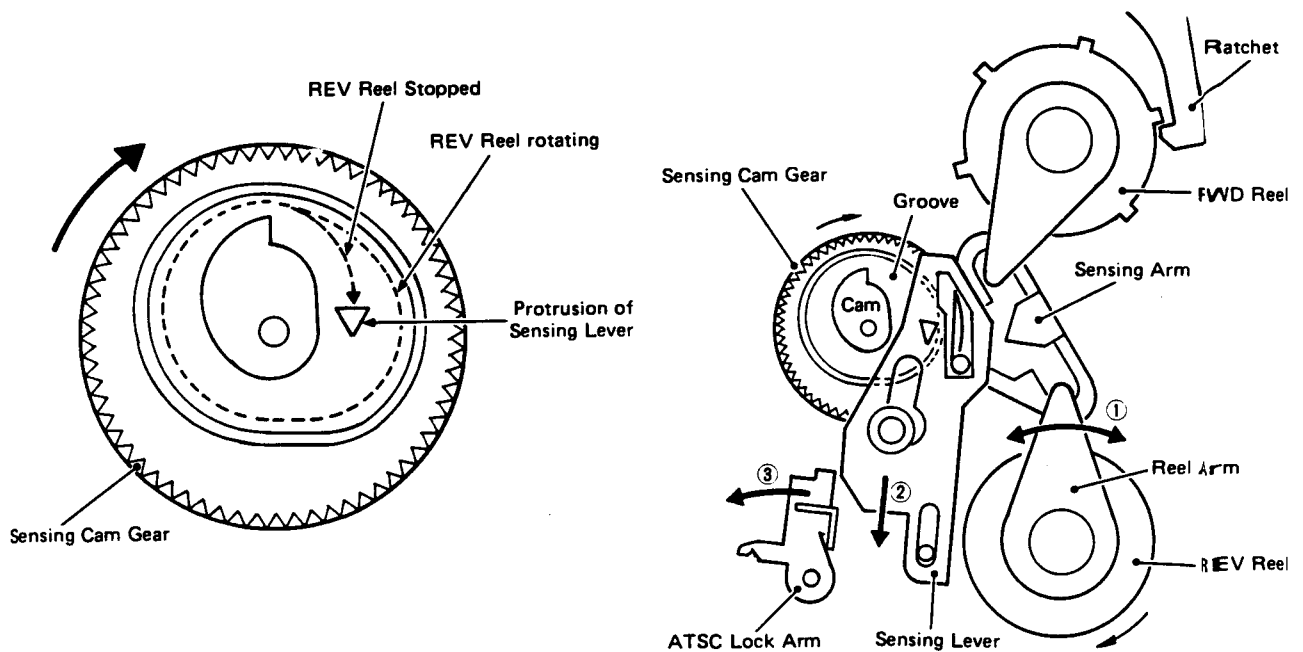

Fig. 11
- (5) In Fig. 11, the reel arms of FWD & REV reels are engaged on the sensing arm. A slight friction causes the reel arms to get locked onto the reels. While REV reel is rotating, the reel arms and sensing lever keep shifting laterally along the arrow direction ① of Fig. 11. Right side movement of the reel arm is caused by the rotation of REV reel; while the left side movement is caused by protrusion of the sensing lever through the inner groove of sensing cam gear.
- (6) REV reel stops as soon as tape slackening is eliminated (the gear of reel is driven by REW gear).
- (7) As soon as the reel stops, the operation of above step (5) sends the reel arm toward the left. Consequently, the protrusion of sensing lever moves along the orbit of dotted line, causing the sensing lever to get pushed by cam and move along arrow ②.
- (8) Sensing lever turns the ATSC lock arm along the direction of arrow ③.